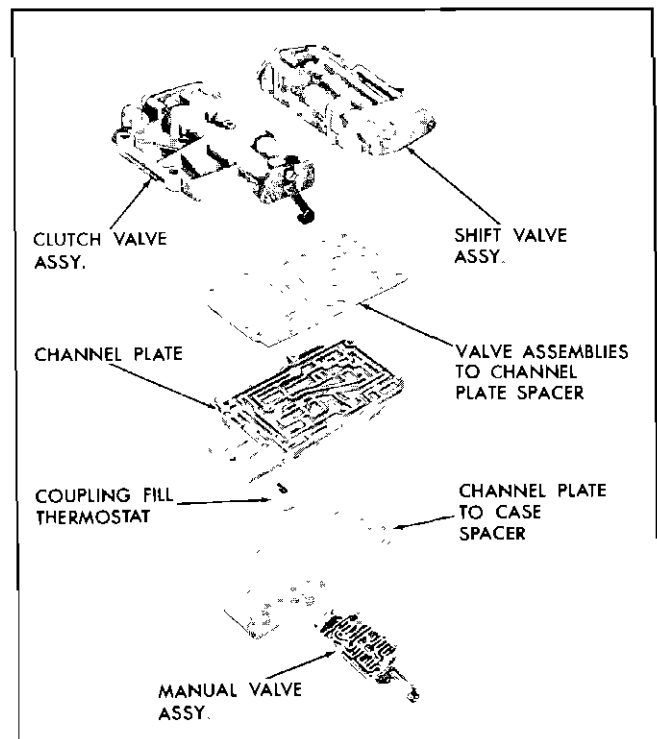

Fig. 140 Components of Control Valve Assembly
3. Place manual valve body assembly over channel plate to case spacer and attach with three screws. Leave screws one turn loose for final alignment (Fig. 140).